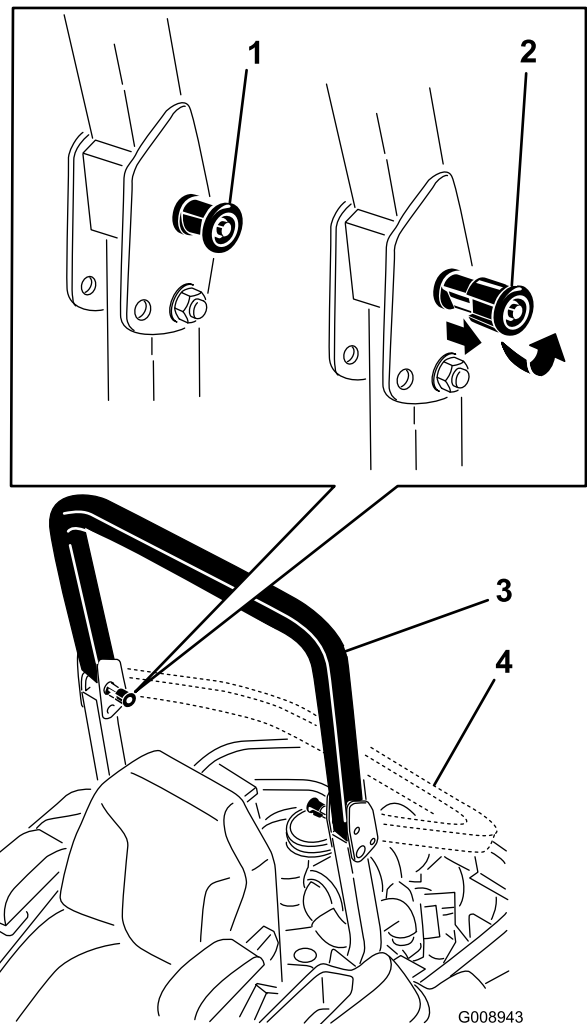

Figure 8
2. Pull both knobs out and rotate them 90 degrees so that they are not engaged (Figure 8).
3. Lower the roll bar to the down position (Figure 8).
4. To raise the roll bar, raise the roll bar to the operate position and rotate the knobs so that they move partially into the grooves (Figure 8).
5. Raise the roll bar to the full upright position while pushing on the upper roll bar so that the pins snap into position when the holes align with the pins (Figure 8).